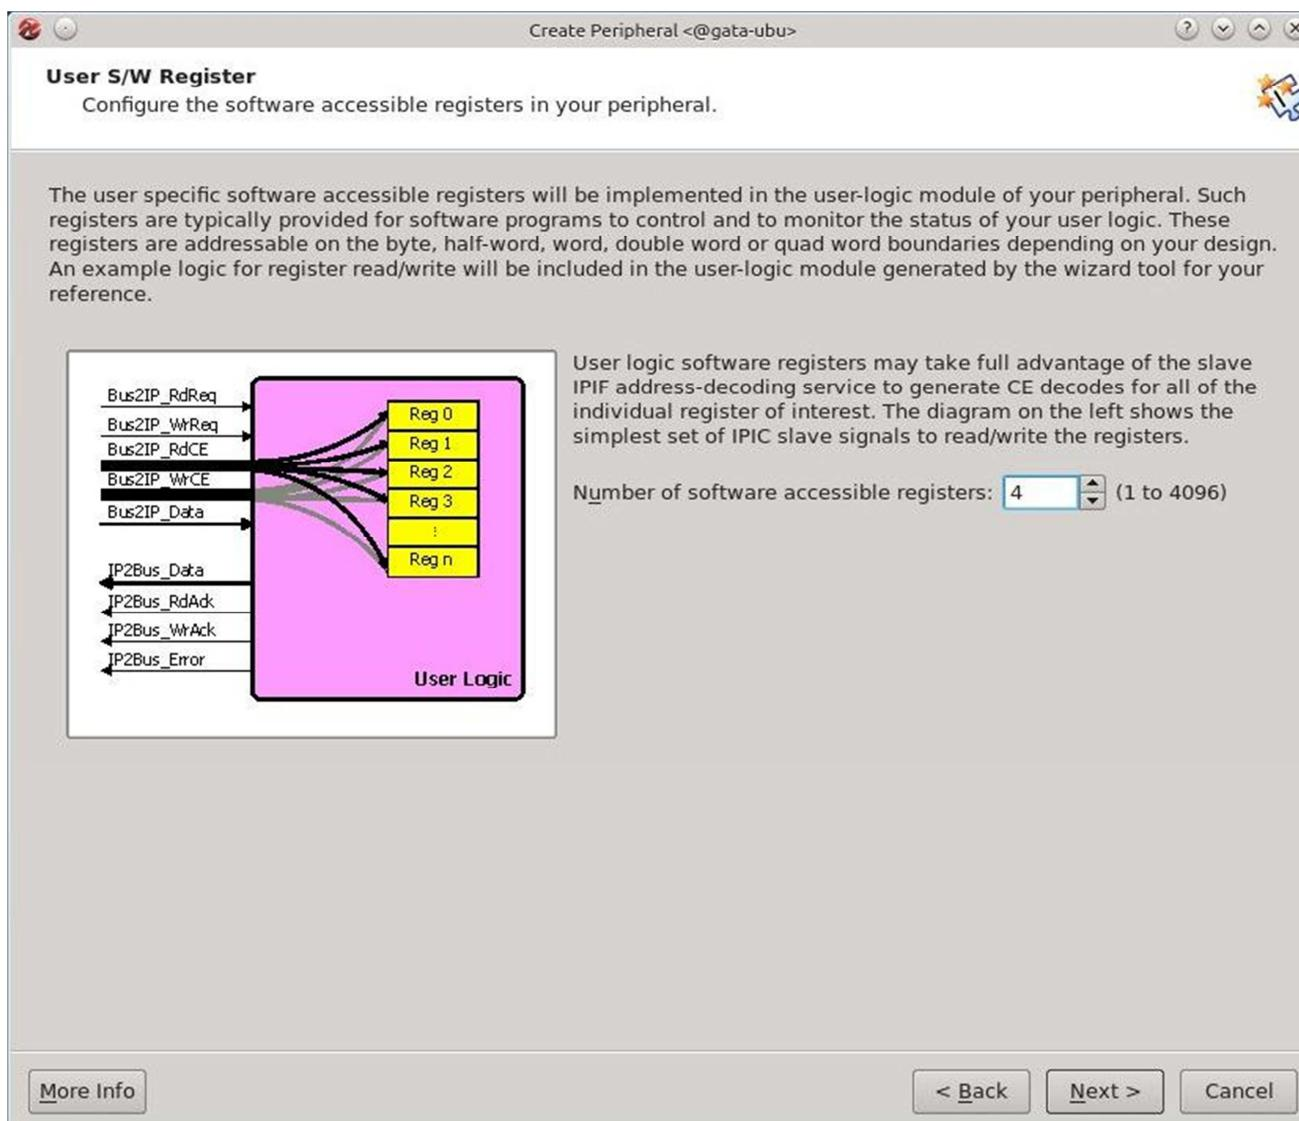

Figure 9: Create and Import Peripheral Wizard (Step 8)
**Step 8:** In the previous step you configured the new core to have built in software registers. The wizard will create the necessary logic inside your core to have read/write registers. In this step you are asked to specify the number of registers in your design as seen in **Figure 9**. Select “4” to add 4 registers to your design and then press “Next” to continue.